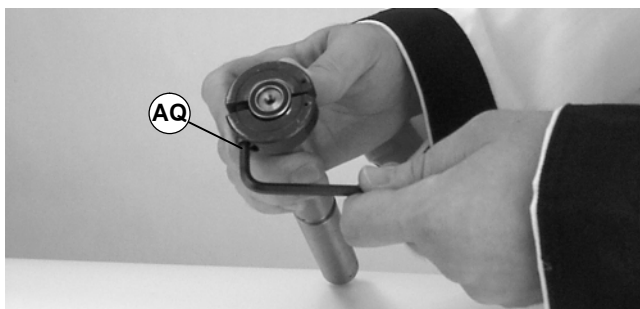

Figure 36
2. Using 3/16" hex key wrench (AQ of Figure 36), tighten tool.